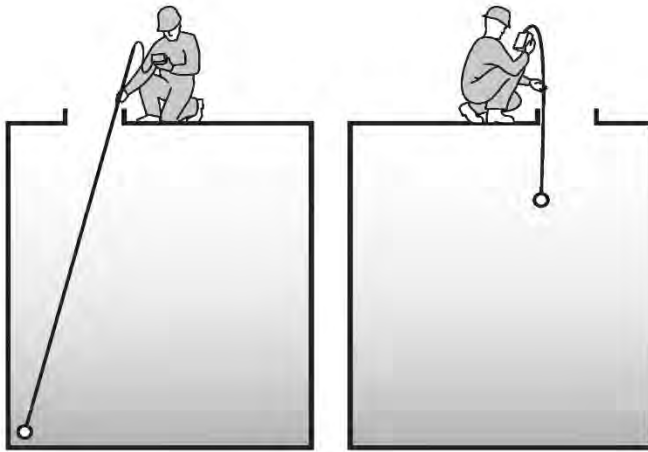

Figure 1: *Atmospheric testing of remote regions and different levels within the confined space.*
- 5) Test air at 3 or more elevations: top, mid-point, and bottom. Initial testing should be done from outside the confined space by inserting a sample probe and/or portable gas detection device at appropriately selected access holes, nozzles and openings. Because contaminants can settle at different levels, each part of the confined space should be tested – side to side and top to bottom (see Figure 1).